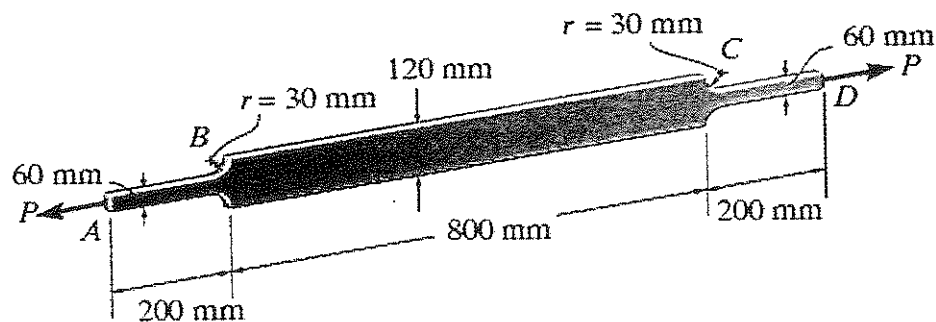

Figure 3: Steel Plate with Shoulder Fillets
- (b) A steel plate has a thickness of 12mm with shoulder fillets located at B and C as shown in Figure 3 below. Allowable stress is given as $\sigma_{\text{allow}} = 150\text{MPa}$. Determine the following: